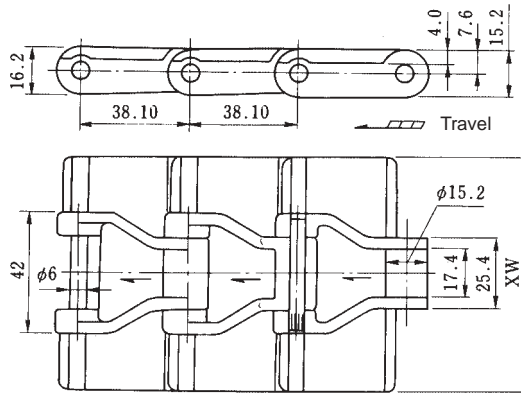

Figure 4.5 TP Top Chain (Type II)
TP Top Chains are used for linear conveying. Applications are similar to the TTP series (Figure 4.5).
- (1) There are two specifications of TP Top Chain: Type I and Type II. If you are developing a new application, consider Type II Chain (Figure 4.5). It offers higher wear resistance than Type I.
- (2) Tables 4.4 and 4.5 show the main characteristics and available top-plate widths for different chain series.